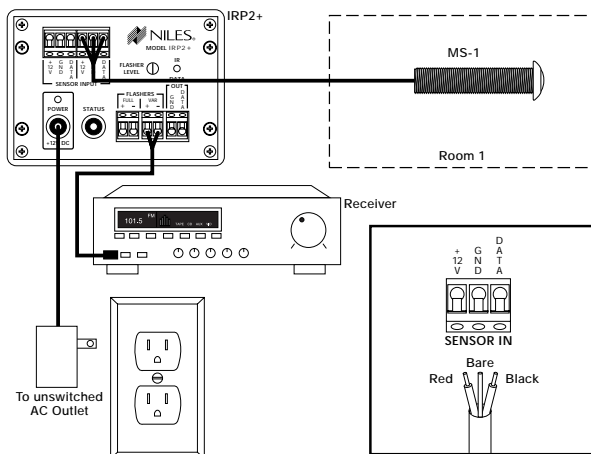

Figure 2
4. Connect the MS-1 cable to the Main System Unit. Strip 1/4" of insulation from the end of each wire. Tightly twist the end of each wire until there are no frayed ends. Insert the end of each wire into the appropriate hole on the Main System Unit's connector block; secure the wiring to the connector by tightening the small connector screws. Double-check all connections. See (Figure 2).